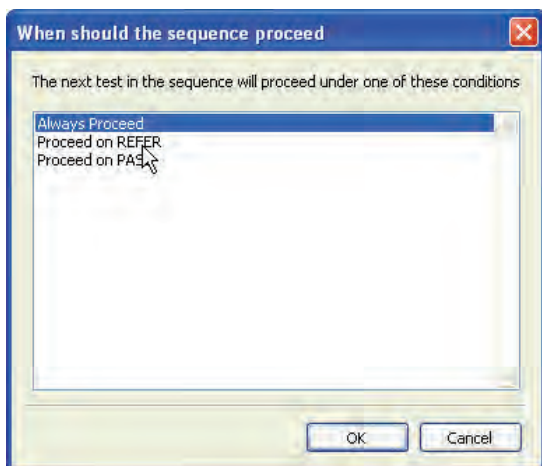

Figure 86
Step 3: You will be prompted to determine when the testing sequence should proceed to the next protocol (Figure 86). Make a selection and click *Ok*.